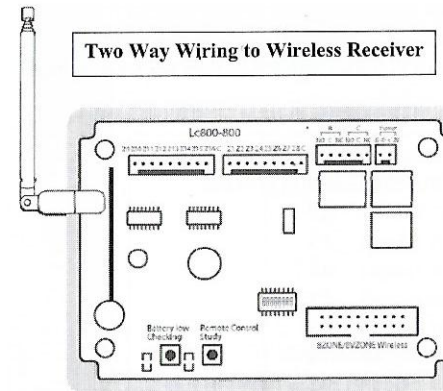

Figure 3
**Step 1:** Press the "Remote Control Study Button" as indicate in figure 3; hold button for 5 seconds,